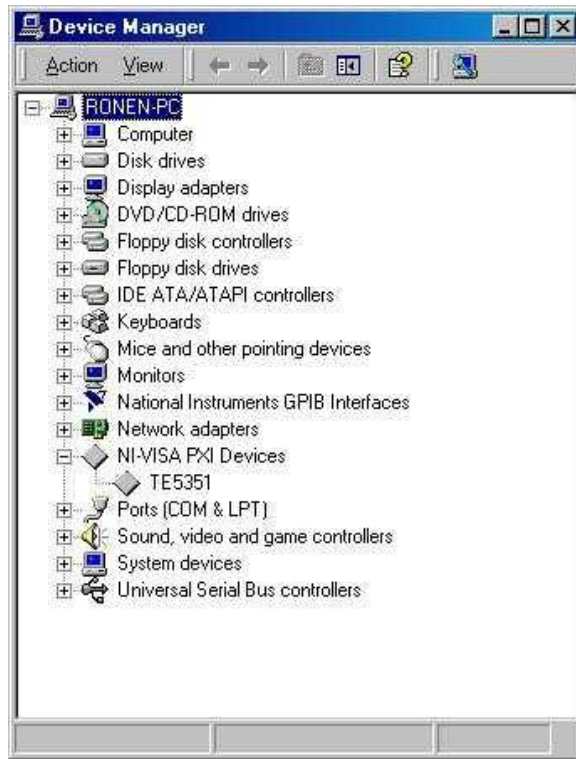

Figure 2-7 – Device Manager
5. Click on Tabor Electronics. If you installed the driver properly, your device manager should show the Arbitrary Waveform Generator Model 5251 as shown in figure 2-7.